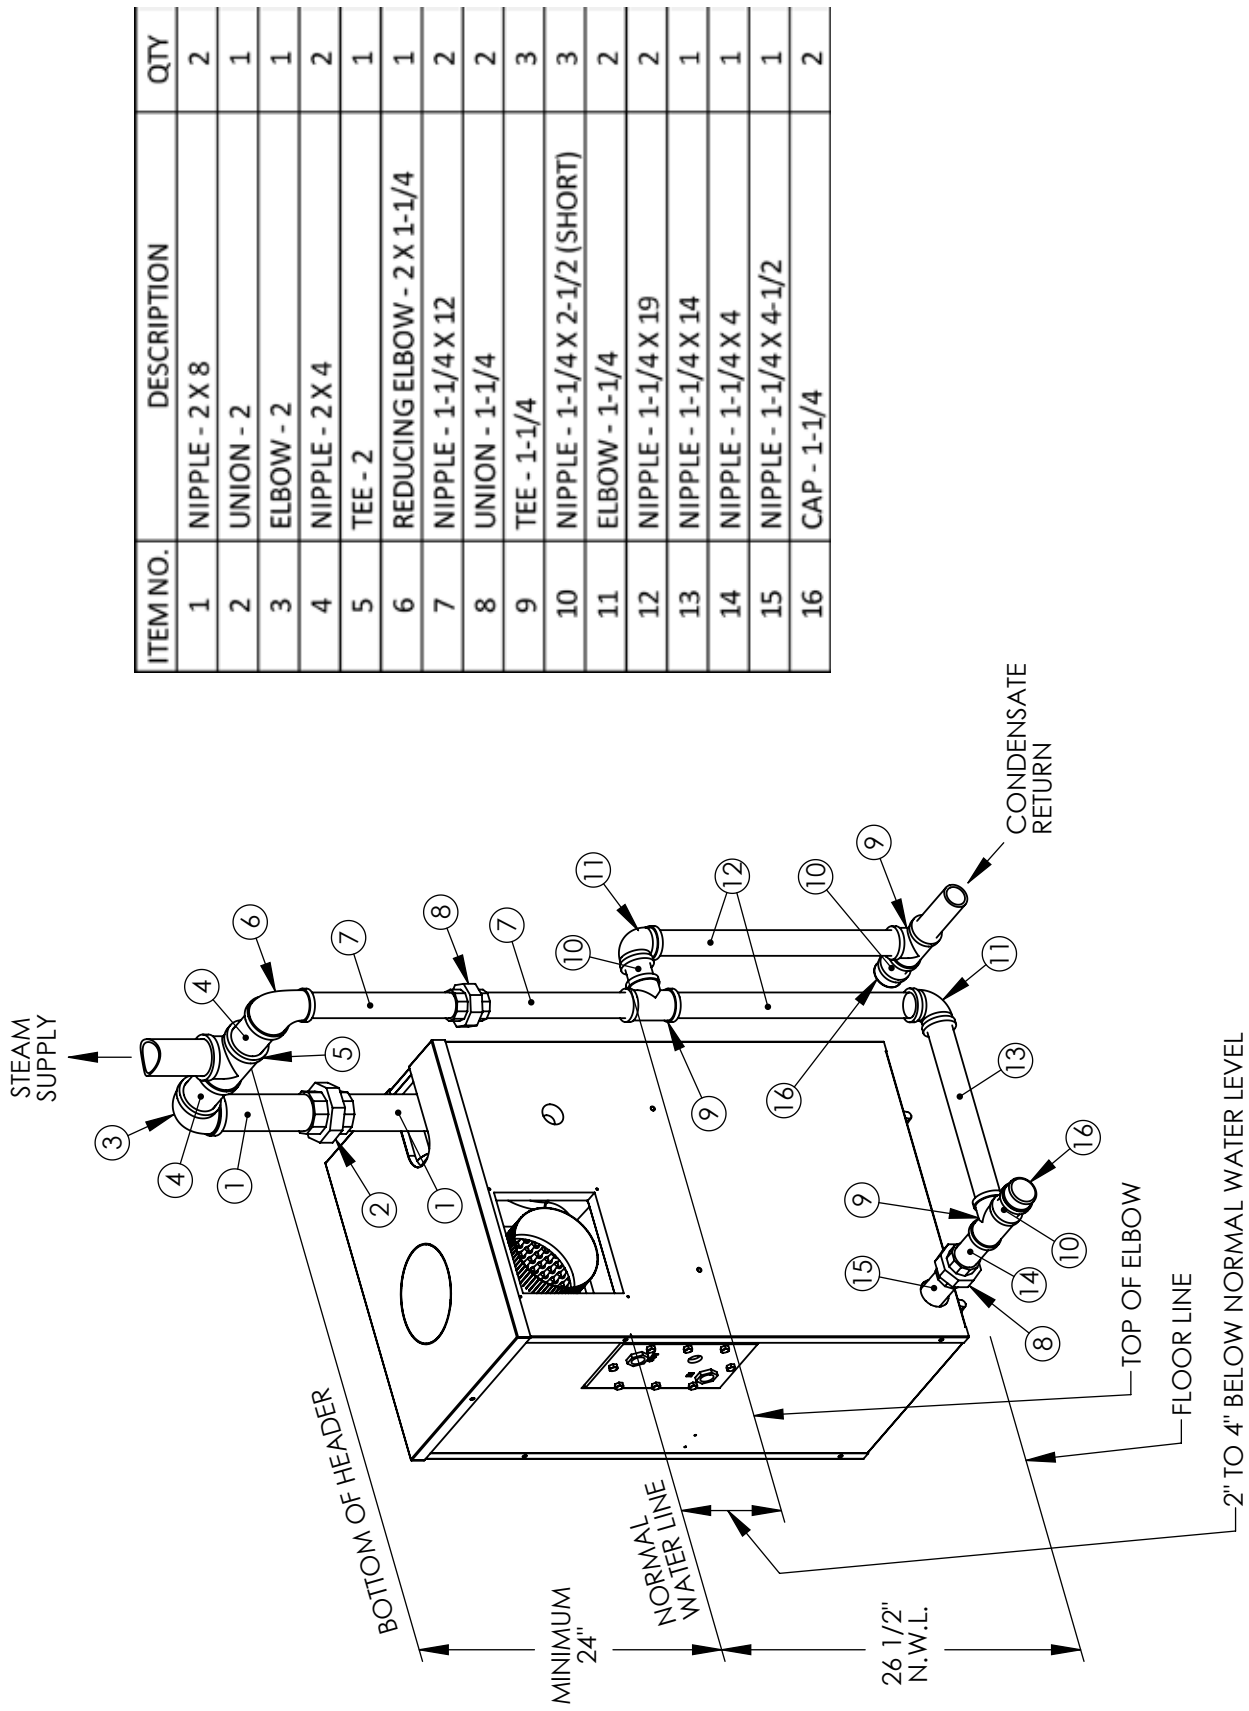

Figure 3.1: Steam; Near Boiler Piping - SBO-3 & SBO-4
2. See Figure 3.1. The return loop from system should always enter equalizer through the Hartford Loop, 2" to 4" below normal water line (see dimensional drawing for normal water line).
3. See Table 3.1 and Figure 3.1 for pipe size information.